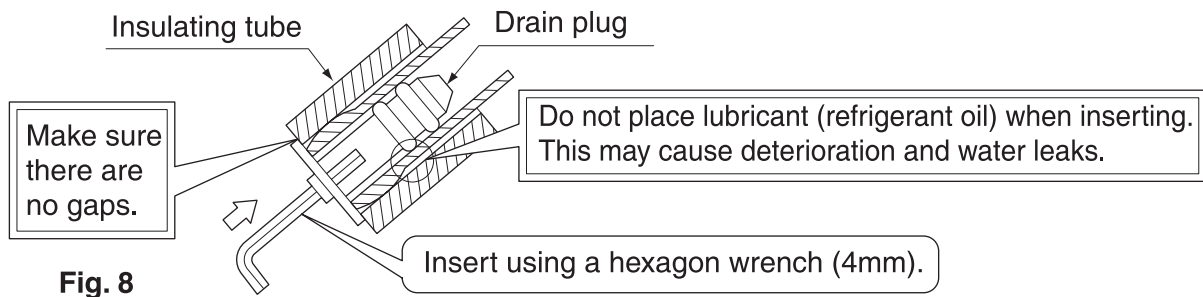

Fig. 8
- (1) Remove the front panel.
- (2) Remove the screws (3 places) securing the front grille.
- (3) Remove the tabs (3 places) securing the front grille by pushing them in the direction of the arrows.
- (4) Making sure not to catch the horizontal flaps, remove the front grille by pulling in the direction of the arrow.
- Remove the drain plug, the insulation tubing, and the drain hose from the drain pan and replace. (Refer to Fig. 8)
- Connect the local refrigerant piping ahead of time, matching it to the liquid pipe and gas pipe marks engraved on the installation panel (1).